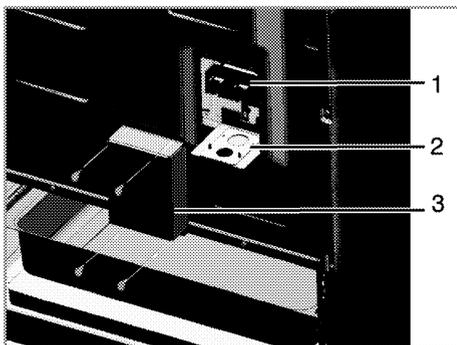

Fig.4
Loosen the screws on rear access cover and take off the terminal block cover see Figure 4.
1 - Remove the terminal block cover (on the back of the range) by removing the screws as shown in Figure 4.
- 1- Remove the terminal block cover (on the back of the range) by removing the screws as shown in Figure 4.